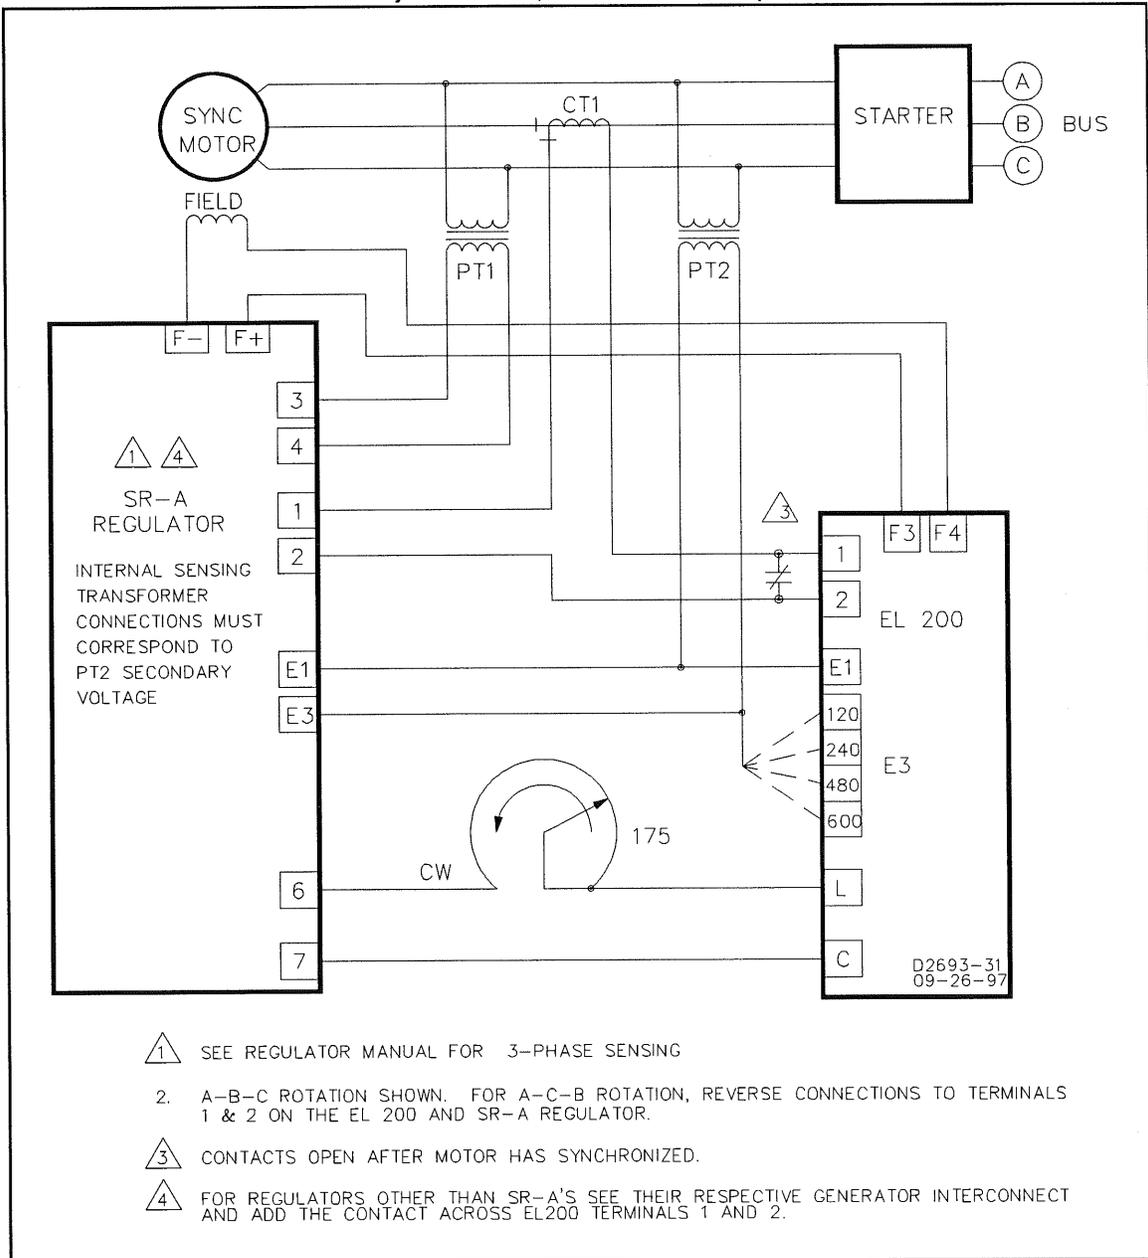

Figure 4-12. EL 200 and Motor Calibration Interconnection Diagram.
a. Calibration (Refer to Figure 4-12). Calibration can be accomplished by connecting the EL200 as shown in Figure 4-12. (The difference between Figures 4-12 and 4-13 is the CT connections to the EL 200. Be sure to follow the interconnects exactly.) The contact across Terminals 1 and 2 (EL 200) disable the minimum excitation limit operation during the starting and synchronization of the motor. Without this contact, the EL 200 will experience both a minimum and maximum limit simultaneously. With the contact closed, the limiter can still react to and limit a maximum excitation condition. Once the motor has synchronized, this contact will open.